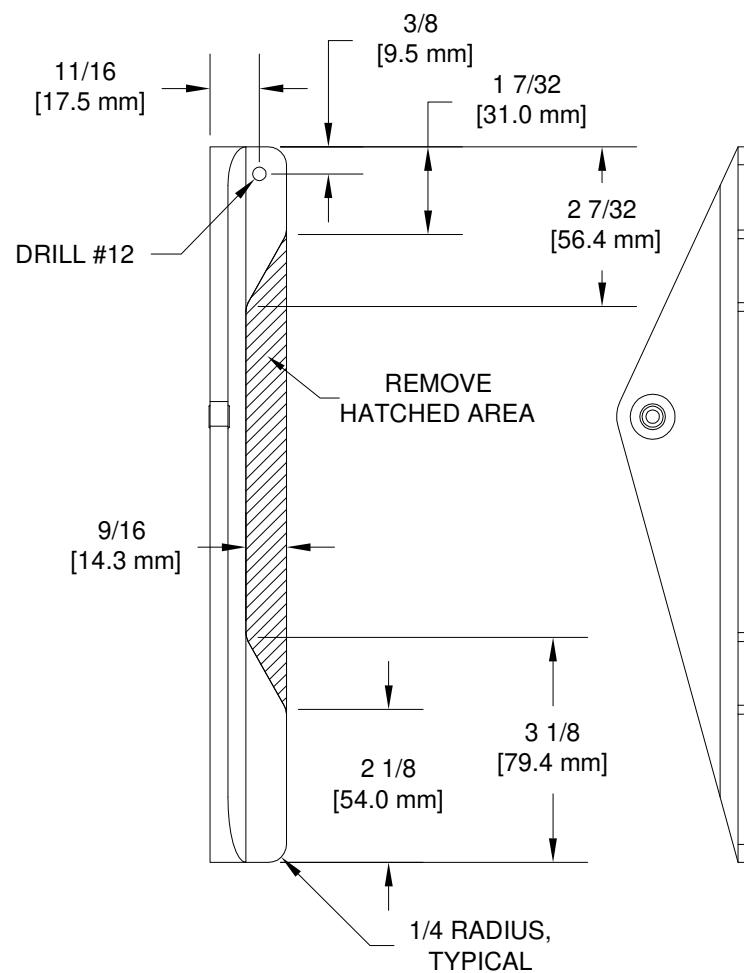

FIGURE 1: DRILL AND TRIM CONTROL COLUMN MOUNT
Step 1: Using a #12 bit, drill a hole in the F-1033-L Control Column Mount located as shown in Figure 1.
Radius the corners and remove material from the middle of both control column mounts as shown in Figure 1.